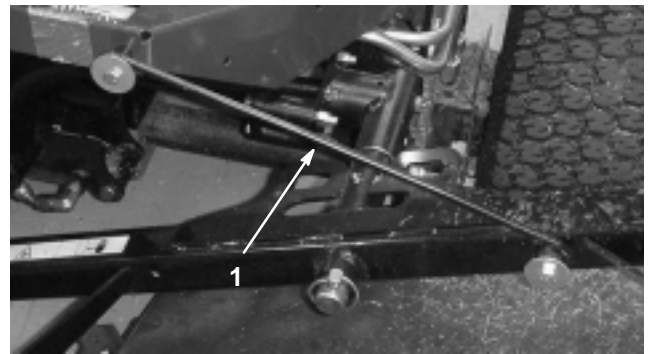

Figure 7
4. Release latch rod (Fig. 7) from front carrier frame retainer.
5. Lift outside of front cutting decks and place latch over frame pin mounted on front of operators platform (Fig. 7).